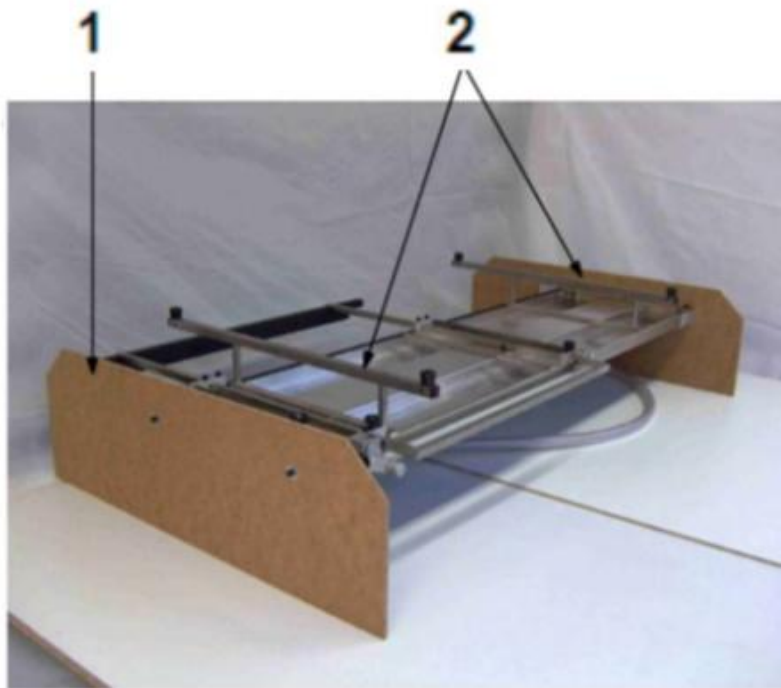

Figure 32 Fitting the feet VARGA VA 21-15 and VA 31-15
4. Screw the feet (2, Figure 32) to the underside of the precision circular table saw using the screws supplied (M5x90).
6. Remove the transport plates (1, Figure 32).